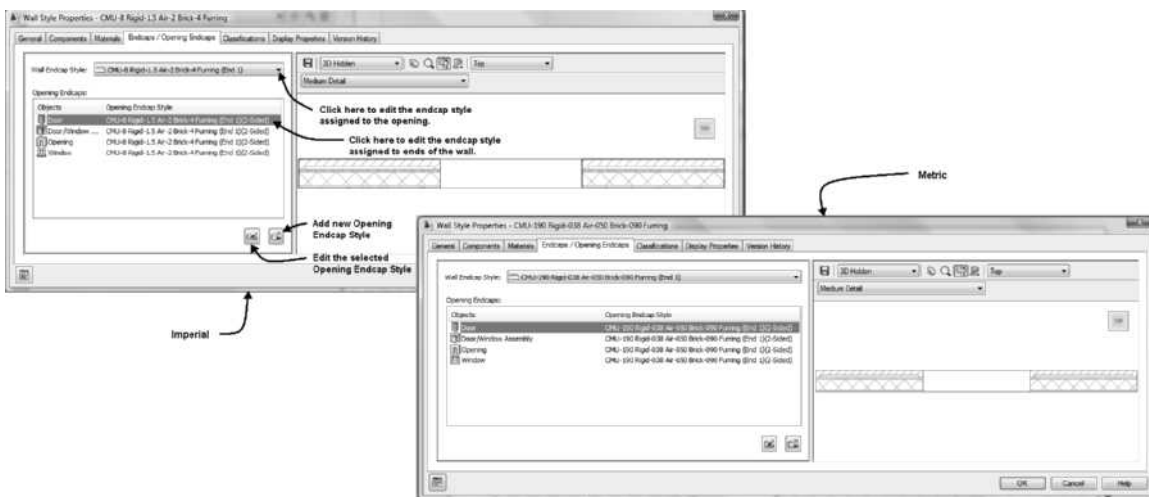

FIGURE 3.24 Endcaps/Opening Endcaps tab of the Wall Style Properties dialog box
42. Select wall 2. Choose Edit Style from the Edit Style flyout to open the Wall Style Properties-CMU-8 Rigid-1.5 Air-2 Brick-4 Furring [CMU-190 Rigid-038 Air-050 Brick-090 Furring] dialog box. Choose the Endcaps/Opening Endcaps tab. This tab allows you to define an endcap style as shown in Figure 3.24.
In Figure 3.24, the CMU-8 Rigid-1.5 Air-2 Brick-4 Furring (End 1) [CMU-190 Rigid-038 Air-050 Brick-090 Furring (End 1)] endcap style is assigned to cap the ends of the wall and the openings. Creating endcap styles from polylines will be discussed later in this chapter. To change the endcap style assigned, click in the endcap list and select from the list of available endcap styles in the drawing. The left pane of this tab includes the following buttons: